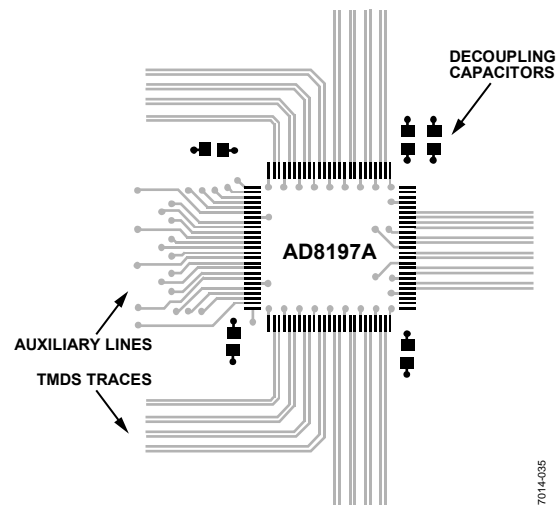

Figure 35. Example Placement of Power Supply Decoupling Capacitors Around the AD8197A
0.01 μF capacitors, and one 4.7 μF capacitor. The capacitors should via down directly to the supply planes and be placed within a few centimeters of the AD8197A. The AMUXVCC supply does not require additional bypassing. This bypassing scheme is illustrated in Figure 35.